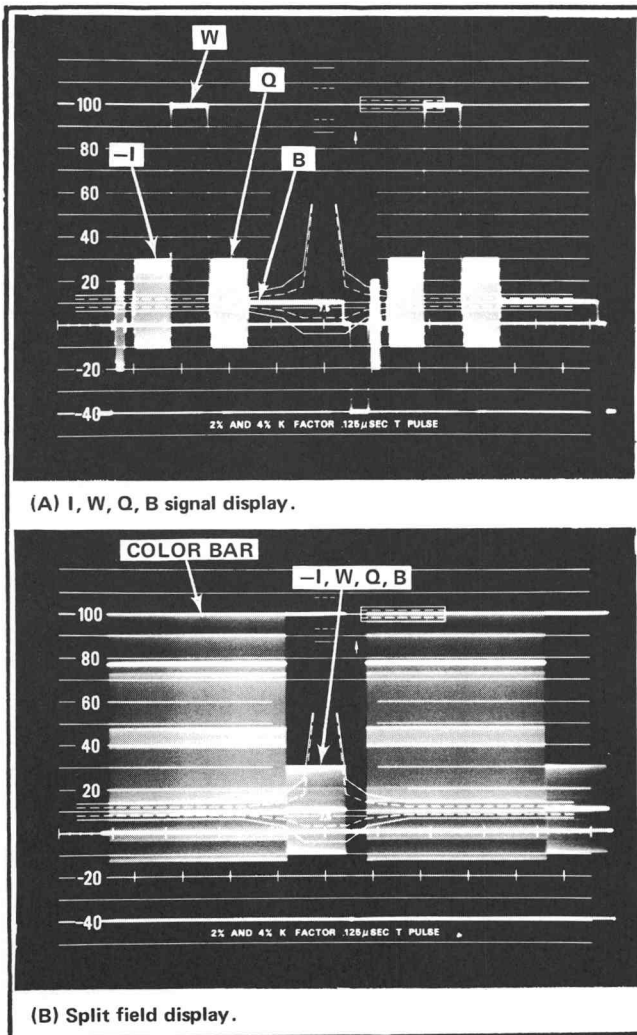

Fig. 2-8. Output waveforms controlled by the BARS lever switch.
lowed by a 100 IRE white bar, a Q bar, and then a black level for the remainder of the line. See Fig. 2-8(A).
12. Change the Type R140 BARS switch to the SPLIT FIELD position and the Type RM529 HORIZONTAL DISPLAY switch to the 2 FIELD position. Note that the field is split to include a color bar signal for the first 11.5 ms and a -I, W, Q, B signal for the next 3.8 ms. See Fig. 2-8(B). Return the BARS switch to the FULL FIELD position and the Type RM529 HORIZONTAL DISPLAY switch to the 2 LINE position.